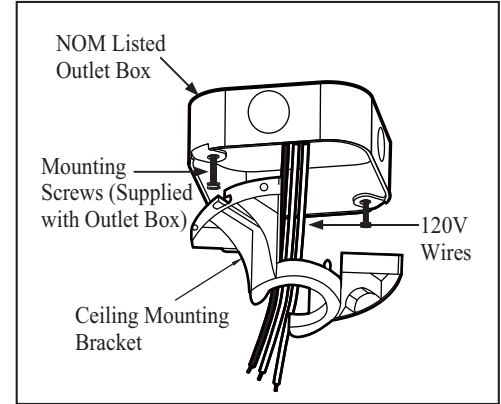

Figure 9
1. Pass the 120-volt supply wires through the center hole in the ceiling mounting bracket as shown in Figure 9.
2. Attach the mounting bracket on the outlet box by sliding the mounting bracket over the screws provided with the outlet box. (Figure 9)